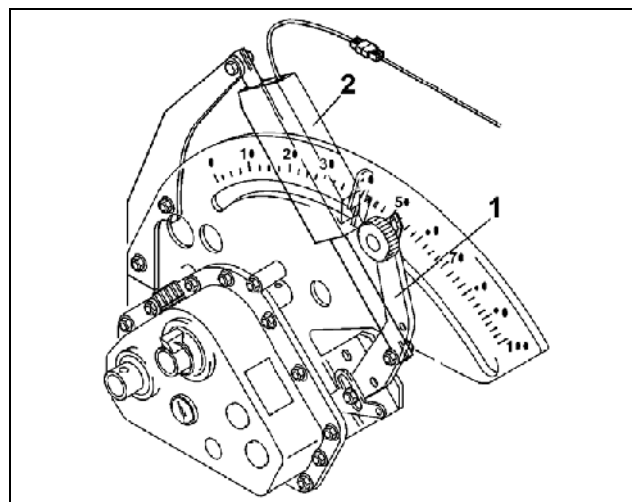

Fig. 78
- Seed rate remote control: The rev. speed of the seed wheels and thus the seed rate is infinitely variably set with the aid of the gearbox setting lever (Fig. 78/1).
For setting the seed rate the setting motor (Fig. 78/2), which actuates the gearbox setting lever is accessed via the **AMATRON 3**. The adjusted seed rate and the scale figure can be read from the **AMATRON 3** display.